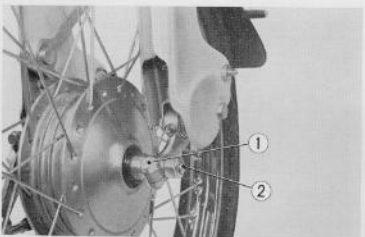

Fig. 4.33 Removing front wheel
4. Remove the front axle nut and the 8 mm hex bolts ① at the front suspension arm and pull out the front axle ② from the opposite side; the front wheel will drop out. (Fig. 4.33)